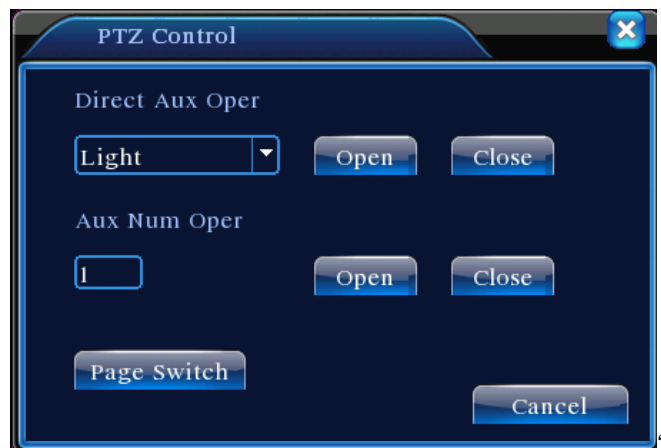

Figure 3.15 Auxiliary Feature Control
Step 1: In Figure 3.10, use arrow keys to rotate the PTZ to the desired preset direction. Click **Set** key to enter Figure 3.15. Select the left boundary and return to Figure 3.10;
Step 2: Use arrow keys to select the desired position. Click **Set** to enter Figure 3.15 and select the right boundary. Then return to Figure 3.10;